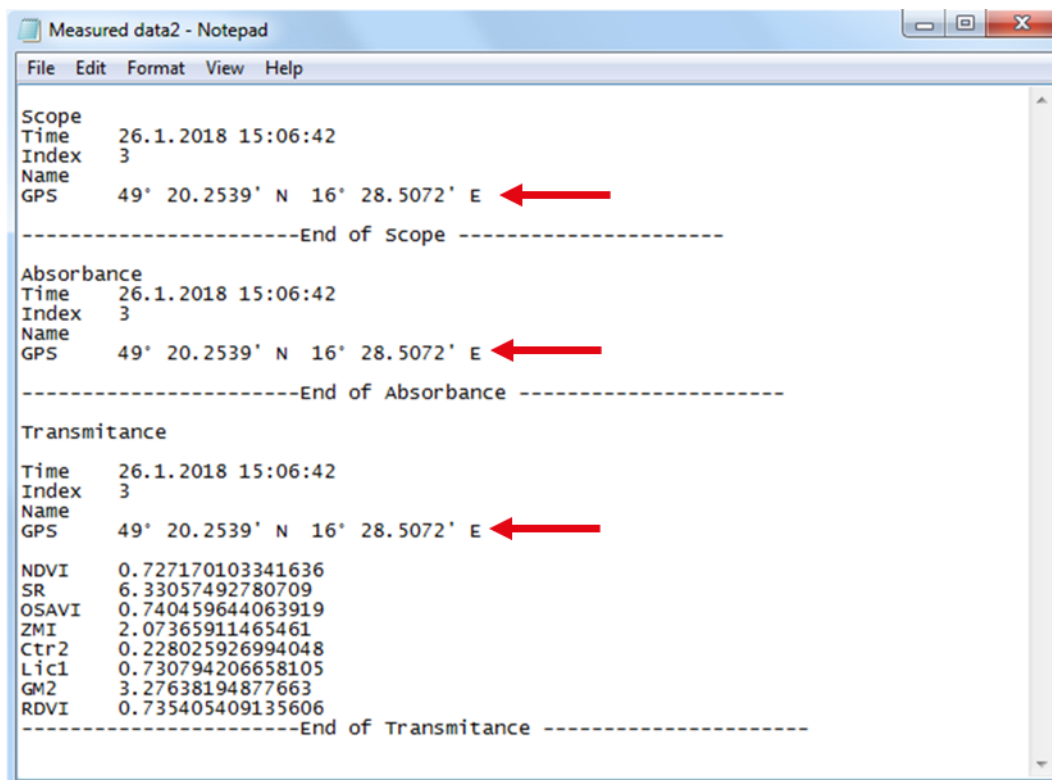

Fig. 40 Data with GPS coordinates.
4. Connect the PolyPen-Aqua to the computer and open the SpectraPen software to proceed with download of the measured data. Data measured with activated GPS module are downloaded with GPS coordinates (Fig. 40).